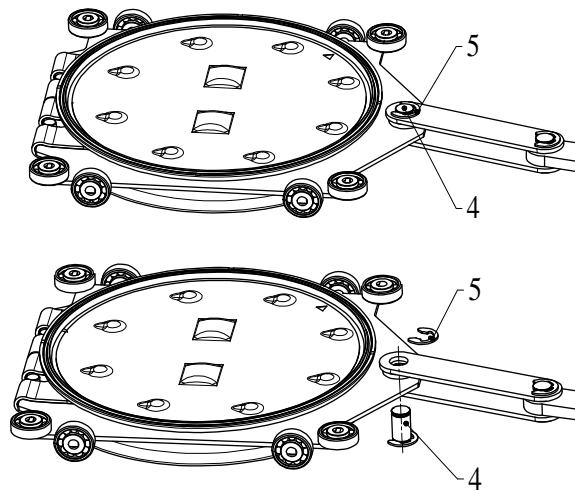

Figure 7-3
9. Remove locking ring (5) according to «Figure 7-3» on page 21.
10. Withdraw bolt (4) by pulling it downwards according to «Figure 7-3» on page 21.
17. Mount bolt (4) according to «Figure 7-3» on page 21.
18. Mount locking ring (5) according to «Figure 7-3» on page 21.